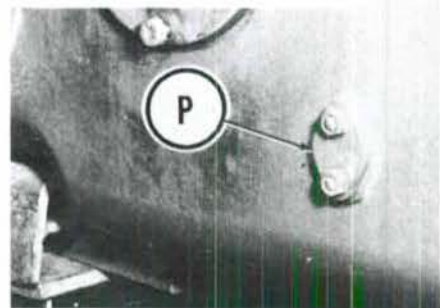
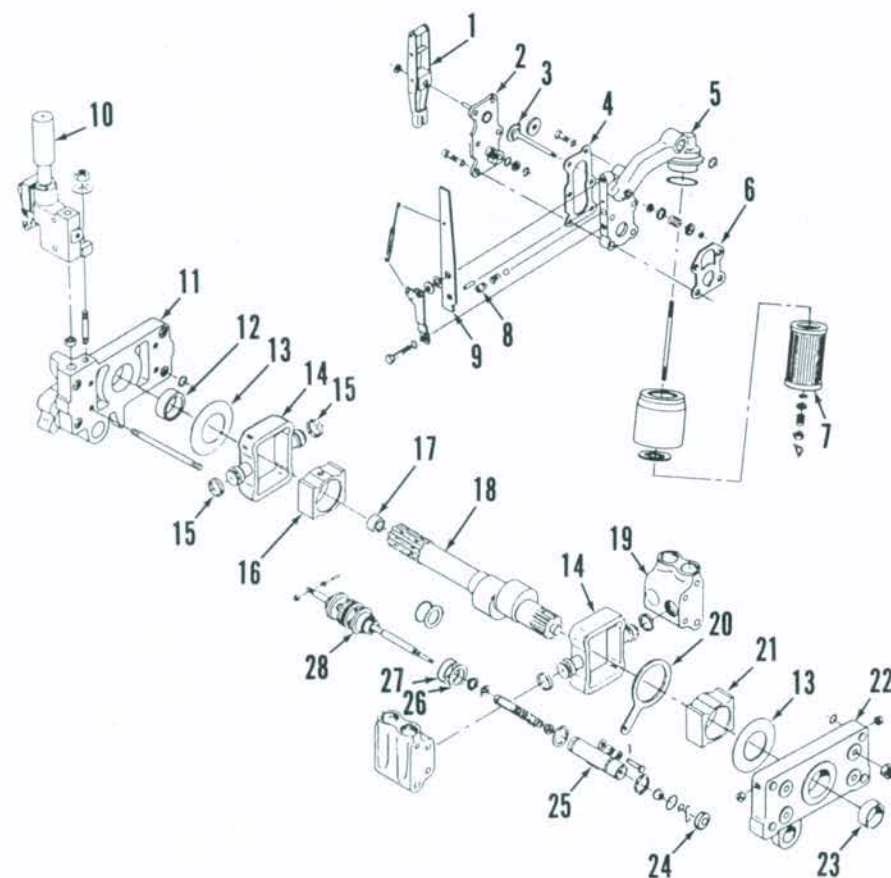

Fig. 228—Hydraulic pump positioning dowel pins (P) are located on each side of differential housing.
Fig. 237—Exploded view of main hydraulic pump. Thrust washers (13) are not used on early production pumps.
lapse and remove the drive shaft coupler and remove pto output shaft. Remove the dowel pin (P—Fig. 228) from each side of rear axle center housing, then lift hydraulic pump out through top opening.
On models equipped with ipto, Multi-Power and/or auxiliary hydraulics, drain the system and remove hydraulic lift cover as outlined in paragraph 207. Remove transmission top cover. Remove step plates and disconnect brake rods. Disconnect Multi-Power pressure line (if so equipped). Support transmission and differential housing separately, remove flange bolts and separate tractor at rear of transmission housing. Disconnect and remove auxiliary pump hydraulic lines leading to side cover and ipto clutch valve on models so equipped. Remove pump mounting dowel (P—Fig. 228)
To remove the main hydraulic pump on models not equipped with ipto, Multi-Power and/or auxiliary hydraulics, first drain hydraulic oil. Remove lift cover as outlined in paragraph 216. Remove the adjusting block and upper tube and spring from servo valve (10—Fig. 237). Collapse and remove the drive shaft coupler and remove pto output shaft. Remove dowel pins (P—Fig. 228) from each side of differential housing, then lift hydraulic pump out through top opening of housing.
nect pressure line at Multi-Power/ipto pump if so equipped. Support transmission housing and differential separately, remove retaining bolts and separate rear of tractor from transmission housing. Remove pump mounting dowels (P—Fig. 228) from each side of differential housing. Disconnect hydraulic pipes from the pumps and remove tube and spring from pump servo valve (10—Fig. 237). Slide pump assembly forward through front opening of differential housing.
Remove clip retaining control lever (1—Fig. 237), then slide control lever from control valve (28). Remove rollers and pin from end of control valve actuating rod. Remove filter assembly and intake housing (5) from pump.
229. VALVE CHAMBERS. Both valve chambers (19—Fig. 237) are identical and interchangeable, and each contains two sets of valve components (5 through 12—Fig. 240). To disassemble the chamber, remove snap ring (12) and thread a ¼ inch UNC bolt into plug (11) to provide leverage. Plug can be pulled by hand. A reseating reamer (Tool No. N-6007A) is available which dresses both seats in one bore at the same time. If tool is used, remove only enough metal to smooth the seats. All parts are available individually.
230. INTAKE HOUSING. The response control valve and nonreturn valve are contained in the intake housing (5—Fig. 237). Refer to Fig. 241 for an exploded view of intake housing and related parts.